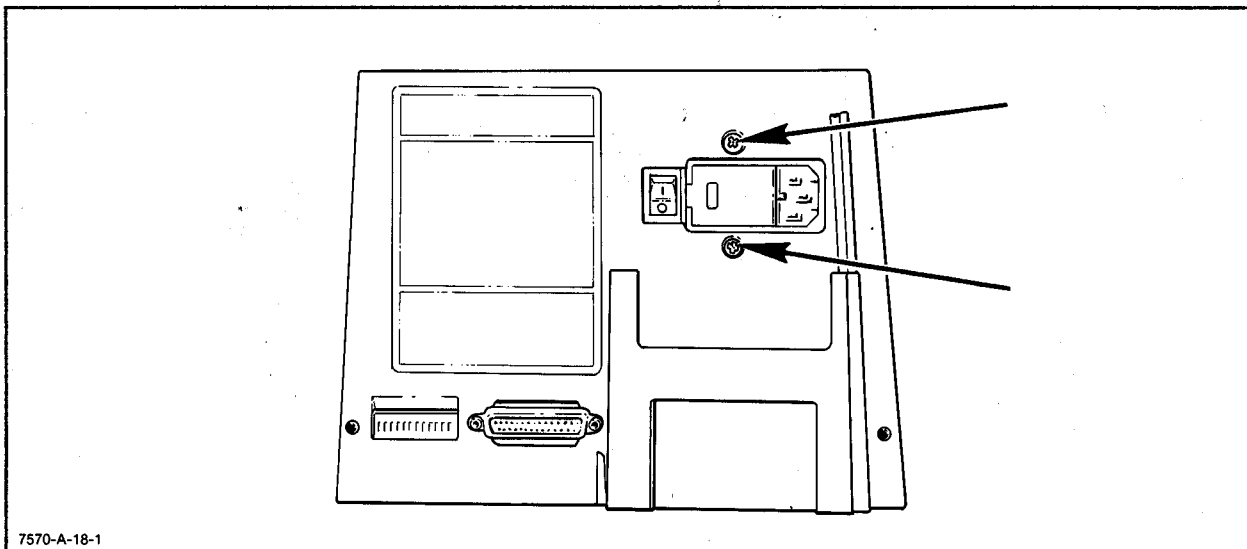

Figure 6-11. Rear Panel Removal
- b. Remove the two flathead machine screws securing the rear panel to the power module. Remove the panel. See Figure 6-11. Rear Panel Removal.
- b. Remove the rear panel. See Figure 6-11.